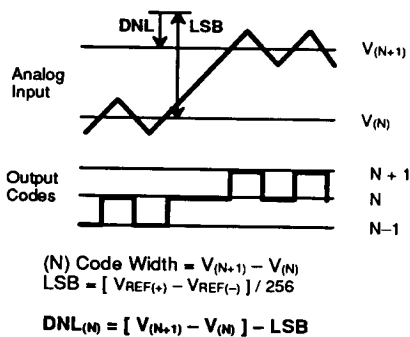
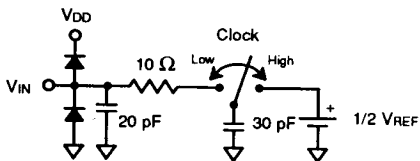

Figure 3. DNL Measurement
Figure 5. Analog Input Equivalent Circuit
- (1) Tester measures code transitions by dithering the voltage of the analog input ( $V_{IN}$ ). The difference between the measured and the ideal code width ( $V_{REF}/256$ ) is the DNL error (Figure 3). The INL error is the maximum distance (in LSB's) from the best fit line to any transition voltage (Figure 4). Accuracy is a function of the sampling rate ( $F_s$ ).
- (2) Guaranteed; Not tested.
- (3) Specified values guarantee functionality. Refer to other parameters for accuracy.
- (4) See  $V_{IN}$  input equivalent circuit (Figure 5). Switched capacitor analog input requires driver with low output resistance.
- (5) All inputs have diodes to  $V_{DD}$  and GND. Input OE1 has internal pull down. Input OE2 has internal pull up. Input DC currents will not exceed specified limits for any input voltage between GND and  $V_{DD}$ .
- (6) Internal resistor to  $V_{DD}$  biases unconnected input to active high logical level.
- (7) Internal resistor to GND biases unconnected input to active low logical level.
- (8) Condition to meet aperture delay specifications ( $t_{AP}$ ,  $t_{AJ}$ ). Actual rise/fall time can be less stringent with no loss of accuracy.
- (9)  $DV_{DD}$  and  $AV_{DD}$  are connected through the silicon substrate. DC voltages differences will cause undesirable internal currents.
- (10) SNR: Ratio of fundamental over noise.